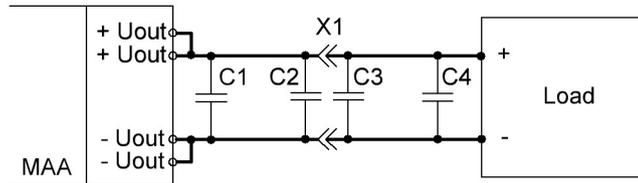

Fig. 3.5. Diagram of load connection to PSU with long conducting lines
- If you have lines over 20 cm length between PSU pins and terminals or powered functional units, use ceramic capacitors 0.47-1.5 μF of appropriate voltage in the path of communication lines according to figure 3.5.